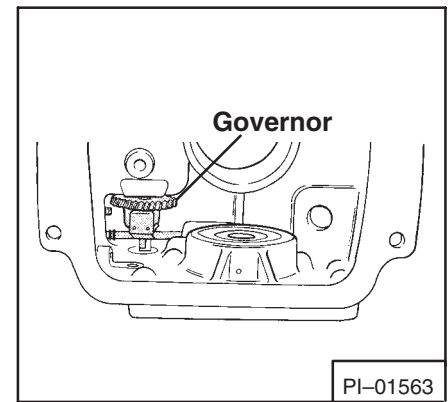

Fig. 48 Installing Governor
2. To Install Governor (Fig. 48)